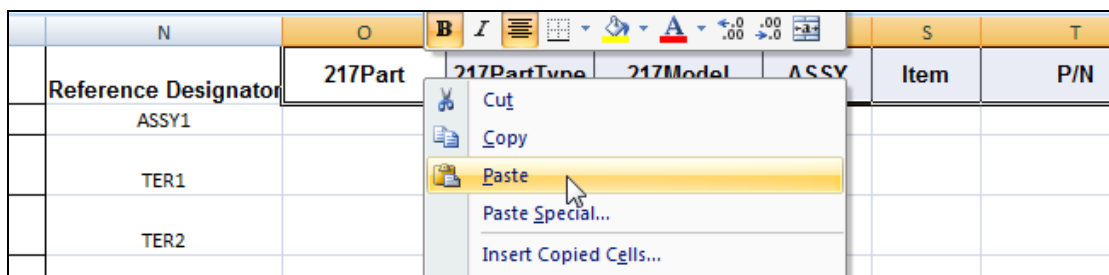

Figure 6. Copying the Original “Headers” from Excel and Pasting to New Columns in Excel
9. Select All of the Header cells in the BOM worksheet related to the **217Part**, **217PartType** etc., through *all of the user’s BOM header cells and component parameter cells*. **Copy** and **Paste** them to the right of the new **Reference Designator** header (Figure 6).